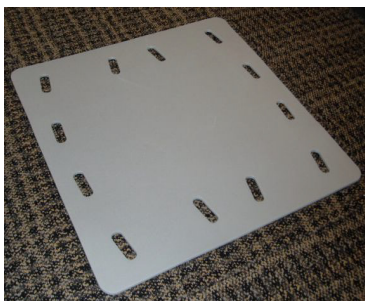

Figure 3-6 ASSET Imaging Pad
3. Use the ASSET Imaging Pad to help form a flat patient surface. See figures 3-6 and 3-7.